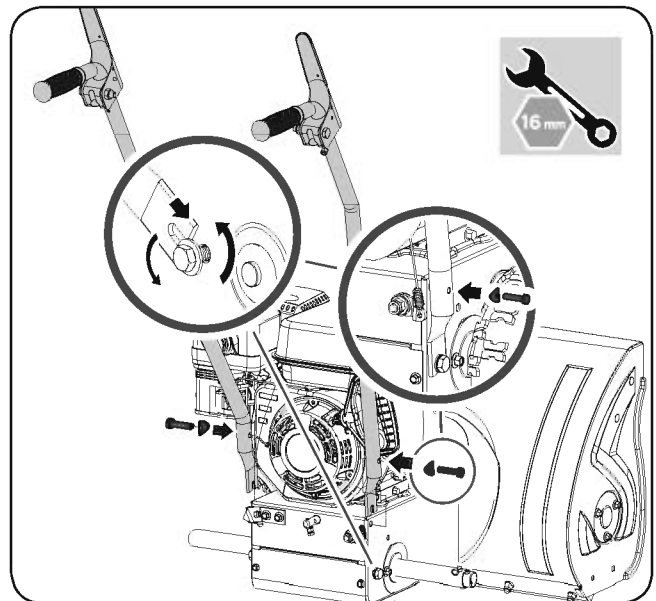

Figure 2b
5. Align the holes in the handlebars with the upper holes on both sides of the transmission housing. Insert the bolts and curved washers and finger tighten to hold in place. (See **Figure 2b**)